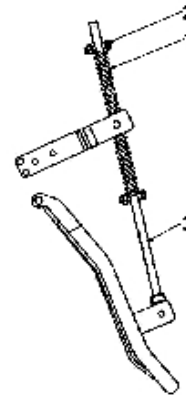

Fig. 27
(Fig. 27) prevents the steerage hoe from overturning when parking.
- 4) The rod (Fig. 27) should be positioned as shown in the figure when parking the machine.